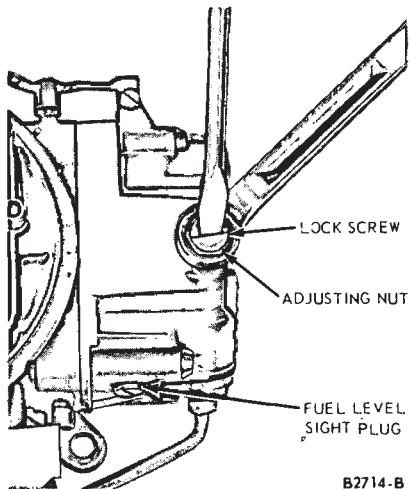

FIG. 7 — Fuel Level Float Adjustment (Wet)
1. Check the fuel level in each fuel bowl separately. Place a suitable container below the fuel level sight plug to collect any spillover of fuel. Remove the fuel level sight plug and gasket and check the fuel level (Fig. 7). The fuel level within the bowl should be at the lower edge of the sight plug opening $\frac{1}{16}$ inch.
1. With the engine stopped, loosen the lock screw on top of the fuel bowl just enough to allow rotation of the adjusting nut underneath (Fig. 7). Do not loosen the lock screw or attempt to adjust the fuel level with the sight plug removed and the engine running because the pressure in the line will spray fuel out and present a fire hazard.